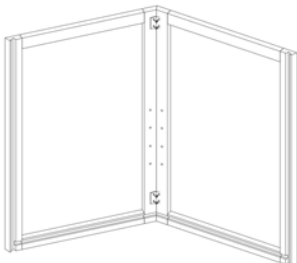
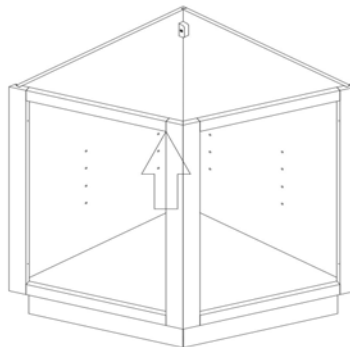

figure5
Figure 6
4. **Connect the frame with 135 connection(Figure 5).**Then fit the frame on the side panels (Figure6) .